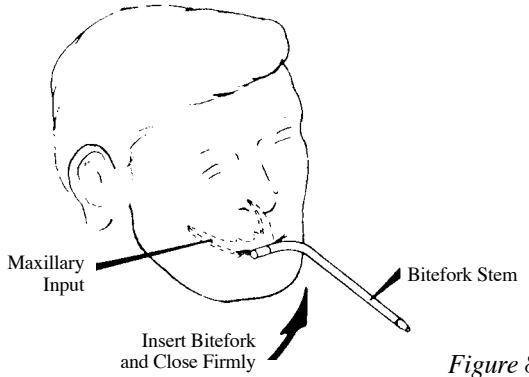

Figure 8
5. Accurately seat the prepared Bitefork to the patient, perhaps placing two cotton rolls between the mandibular occlusal surface and the underside of the Bitefork, Figure 8. Apply a "touch" of petroleum jelly on the stem end of the Bitefork.